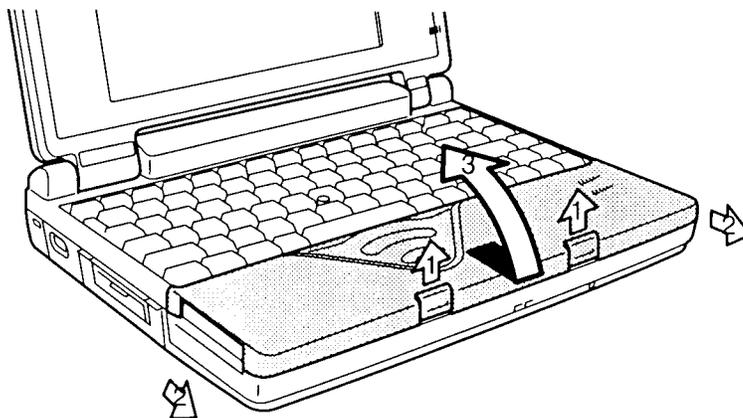

Figure 4-2 Unlatching the palm rest
3. Close the palm rest and gently push it into position (figure 4-2).
4. Push the latches back into place. Press gently until you feel them click (figure 4-2).